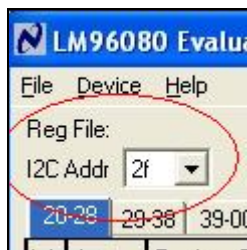

Figure 4 – I2C Address
- In the SensorEval Software, select the I2C address that matches the address bit selected in step 1. Use table III to set the correct I2C address, which is located on the top left hand corner of the SensorEval Software (figure 4).